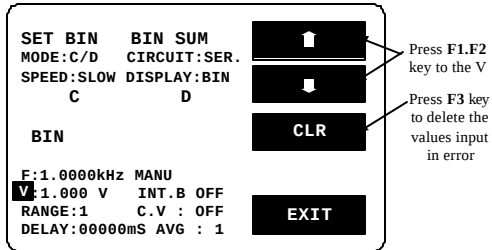

Figure 8-7
- Press  key shown as Figure 8-7 below. For further details, please refer to 4-5-4